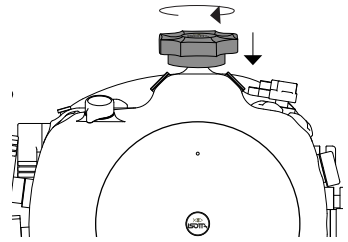

Figure 8
- Screw the knob until it locks and release the safety by pressing lightly towards the housing; (fig. 8)